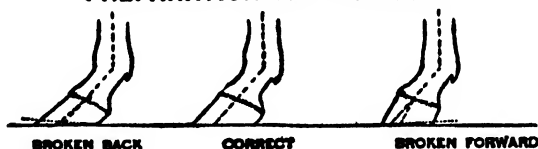

FIG. 87
9. If the foot is stumpy, cut as much as possible from the heel without cutting below the sole. If the foot is too sloping cut a maximum amount off the toe. Fig. 87.